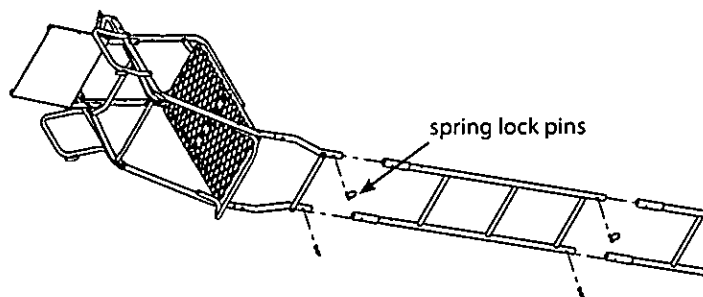

Figure 11
16. With all sections assembled together on ground, secure all sections together using (6) provided spring lock pins. Handle of spring lock pin must be put to the outside of ladder side rails. **SEE FIGURE 11.**